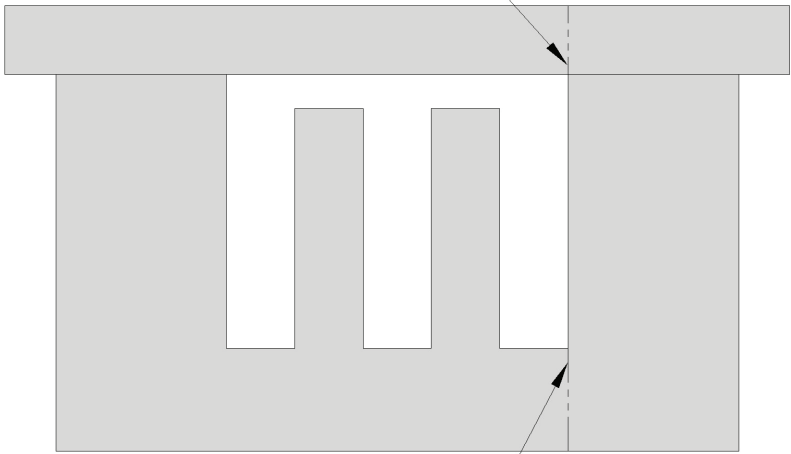

Figure 25: Snap Bushing
2. Cut the new snap bushing as shown in **Figure 25**. The snap bushing should be of the same size and type as the original.